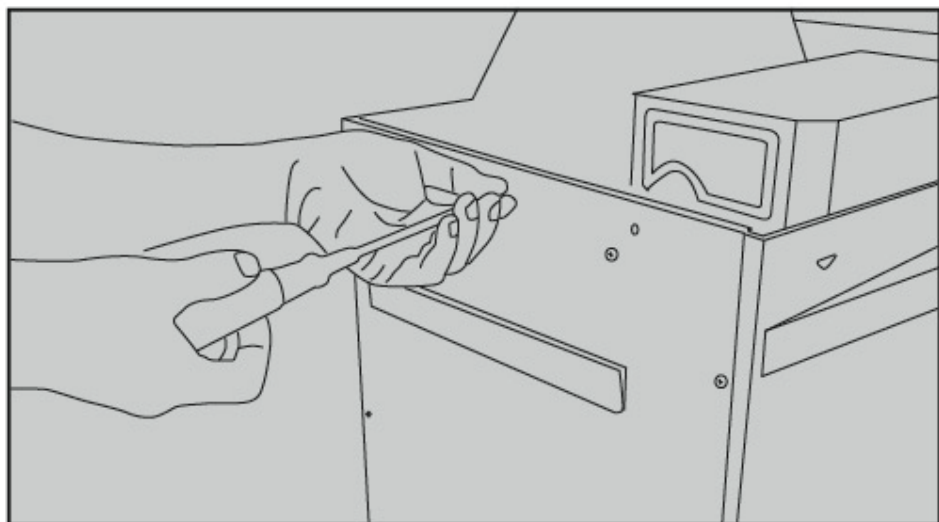

Fig.5
4. Unscrew the screws on the motor cover, and dismantle the motor cover(see Figure 5).